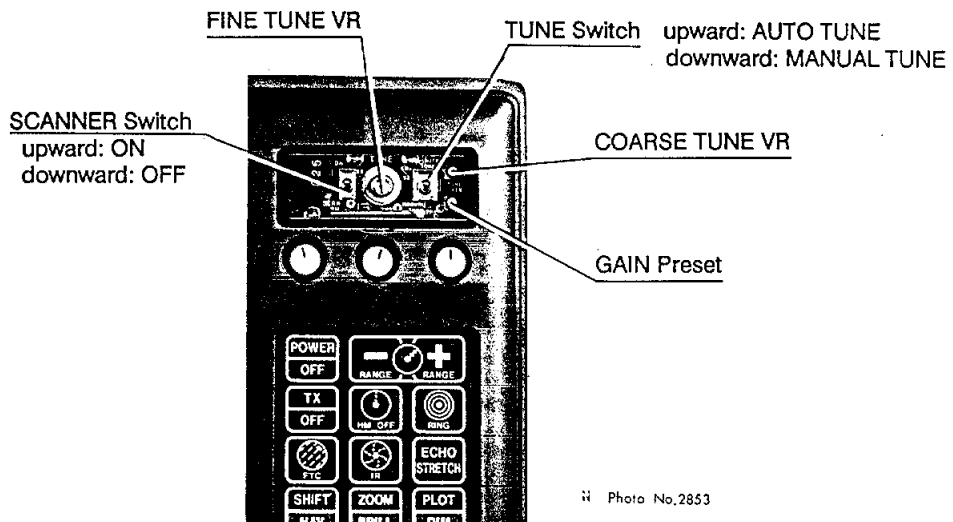

Figure 6-15 Controls in the VR Compartment
2. Open the VR compartment. Set the GAIN VR where a little background noise appears on the screen. For the location of the GAIN VR, see Figure 6-15.
1. Suspend scanner rotation by turning off the **SCANNER** switch in the VR compartment. For the location of the switch, see Figure 6-15.